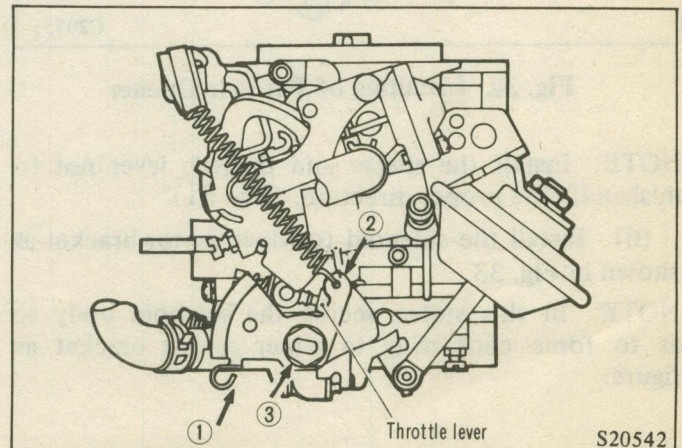

Fig. 30 Removing Throttle Lever
- (2) Remove the throttle return spring. (Fig. 30)
- (3) Remove the throttle lever installing nut. (Fig. 30)
- (4) Remove the throttle lever and spacer.